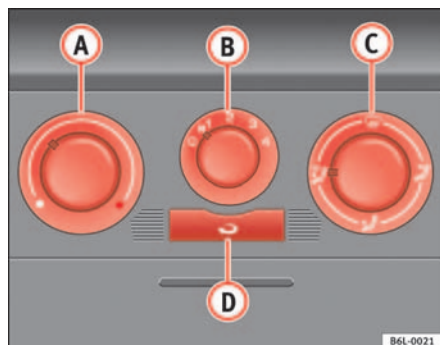

Fig. 85 On the dash panel: Heater controls
- Using the controls ⇒ fig. 85 **A** and **C** and with the switch **B** you can set the temperature, air distribution and the blower speed.